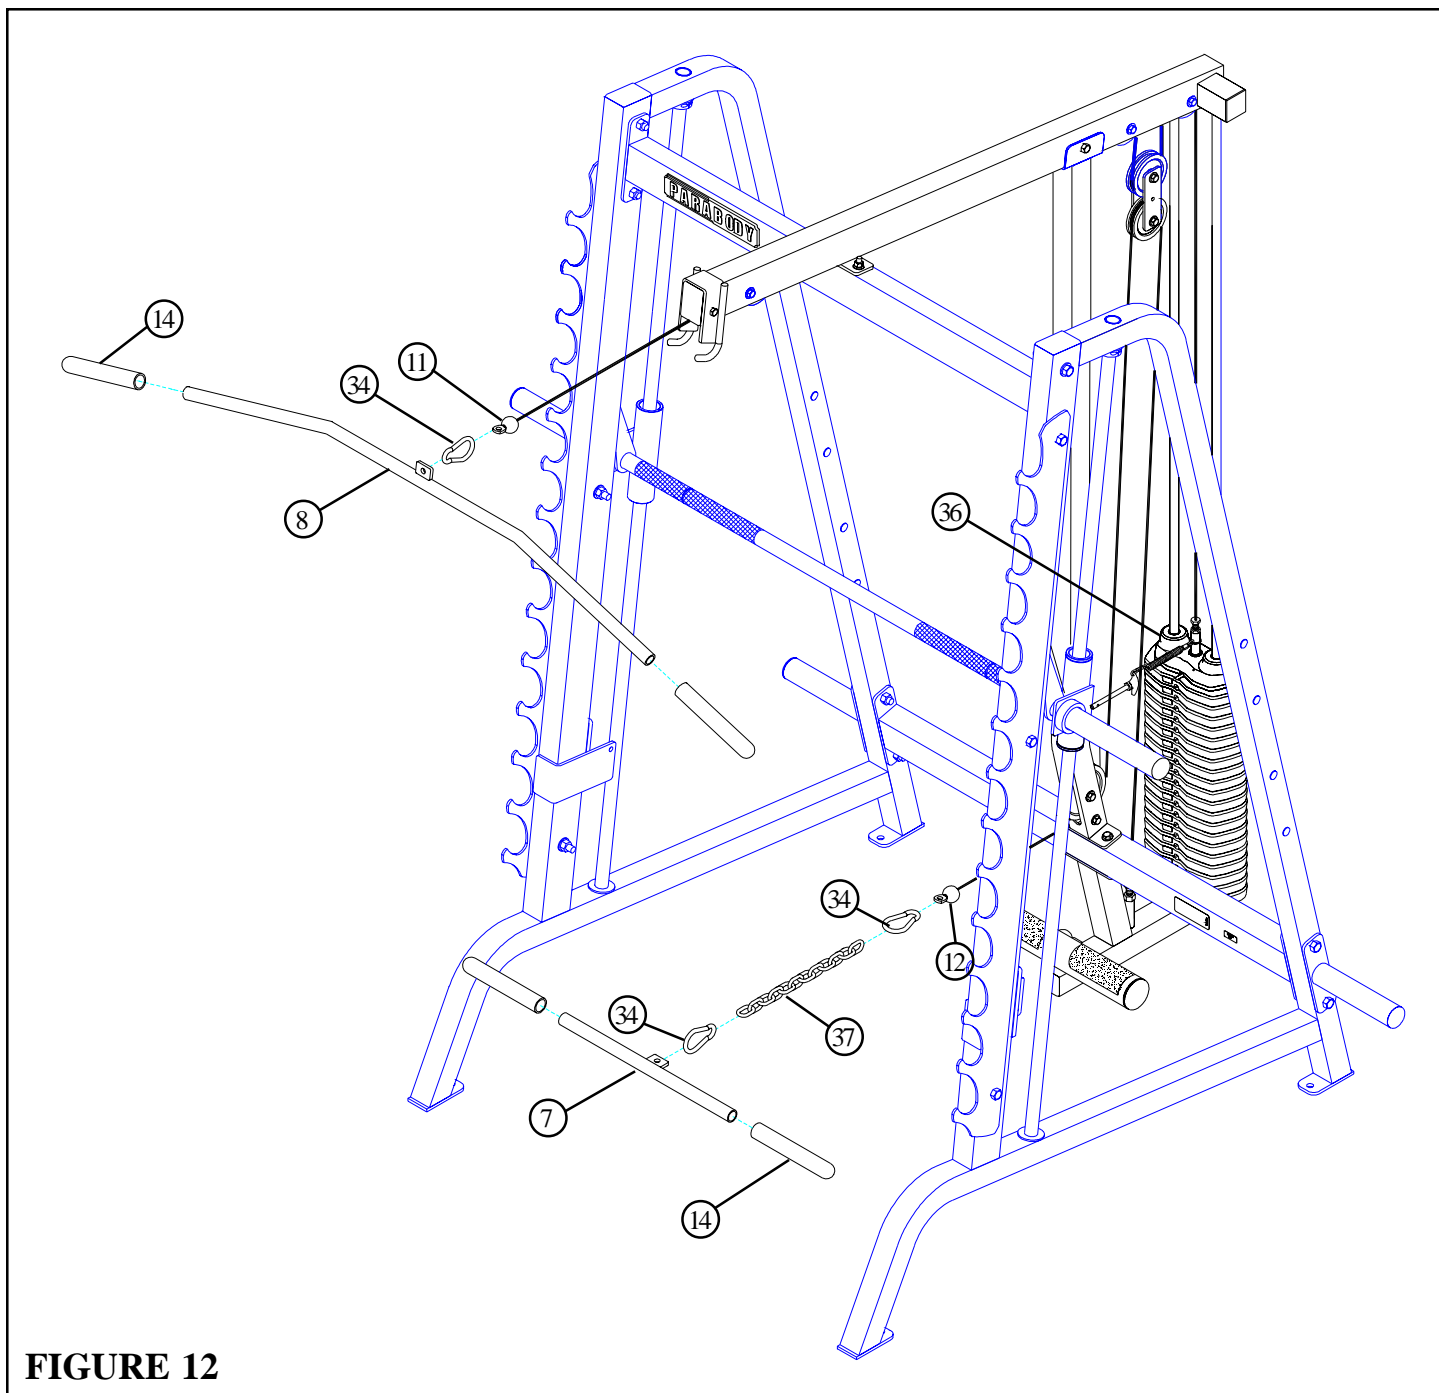

FIGURE 12
- Slide two 1 X 8" GRIPS (14) on the LOW ROW BAR (7) and two 1 X 8" GRIPS (14) on the LAT BAR (8) as shown in FIGURE 12.
- Attach the LAT BAR (8) to the ball end of the upper CABLE (12) using one 5/16" SNAP HOOK (34) as shown in FIGURE 12.
- Attach the LOW ROW BAR (7) to the ball end of the lower CABLE (11) using one 12-LINK CHAIN (37) and two 5/16" SNAP HOOKS (34) as shown in FIGURE 12.
- If the HEAD PLATE (36) does not sit on top of the first WEIGHT PLATE (40), push the head plate down, insert the SELECTOR PIN (17) and perform several repetitions on the machine. This will relax the cable system and prevent the HEAD PLATE (36) from lifting up.
- If after completing the previous step the HEAD PLATE (36) still does not sit on top of the first WEIGHT PLATE (40) or if there is excess slack in the cable system, adjust the threaded end of the CABLE accordingly and retighten the jam nut.